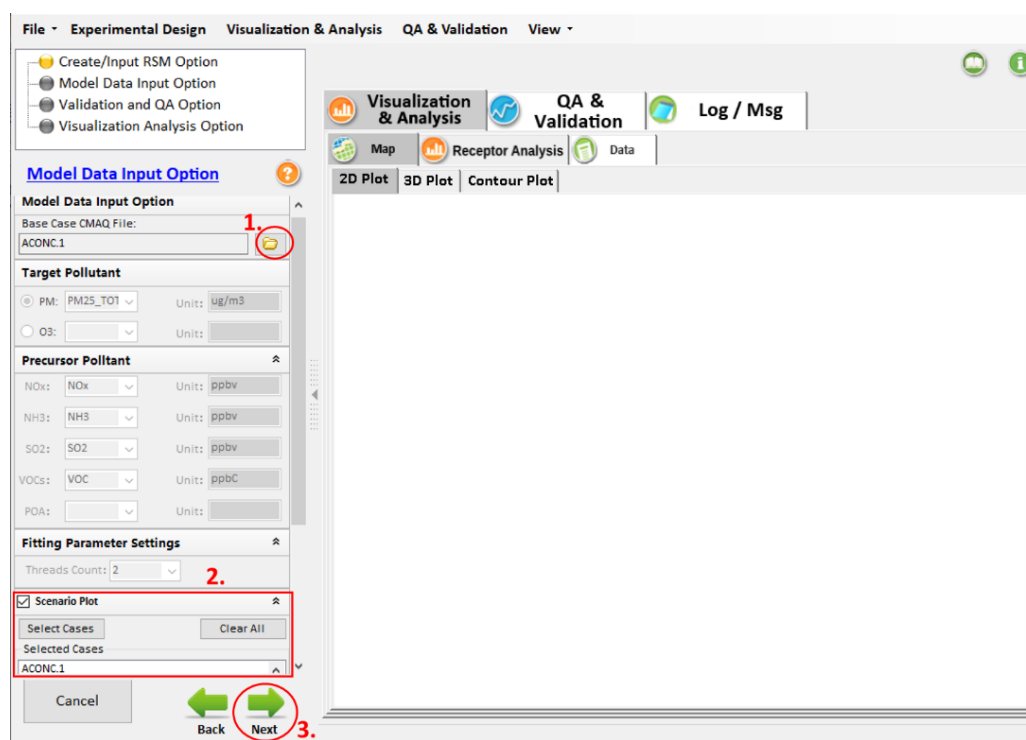

Fig. 17 Model Data Input Option
The parameter setting for **Model Data Input Option** is shown in Fig. 17.
- Click the **Next** button to proceed to the configuration of the **Validation and QA Option**, as shown in Fig. 17.